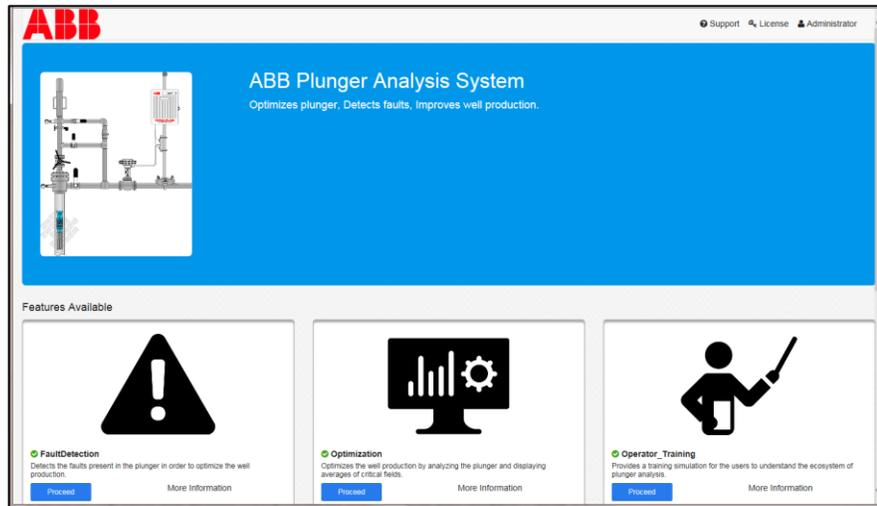

Figure 39: PAS main screen (all features activated)
- 4) Ensure that the required features are activated. Activated features should have a check mark next to the name and display the Proceed button (Figure 39). If not, follow the procedure described in section 5, *Activating PAS*.